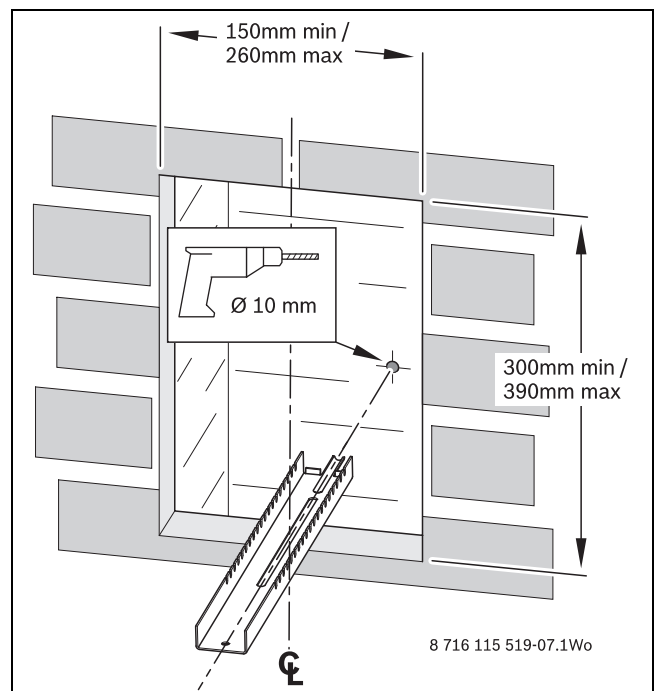

Fig. 6 Chimney hole
- ▶ Make an opening in the chimney wall according to the measurements shown in fig. 6.